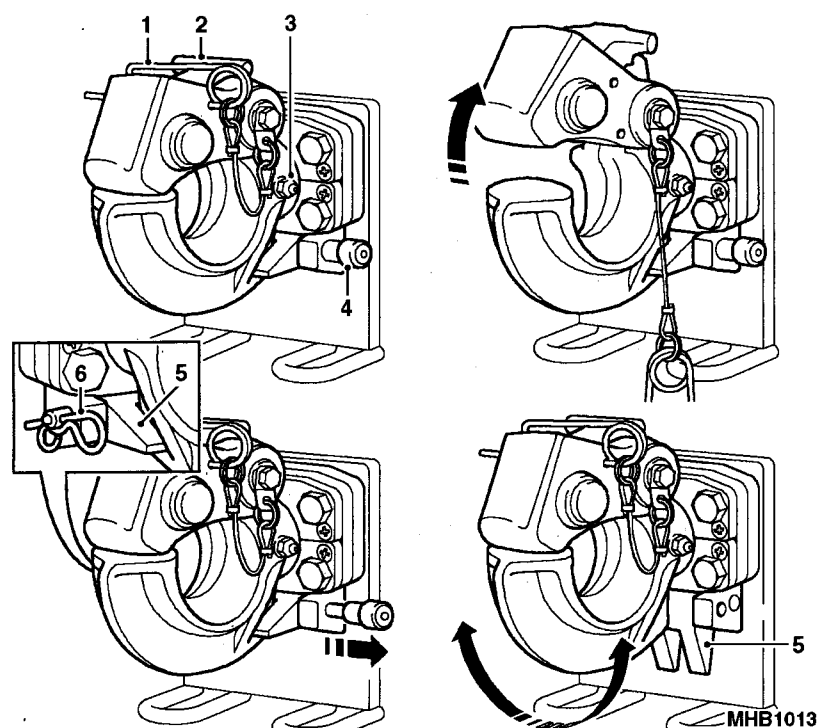

Fig 14 Rotating towing hook operation
- 40.1 Remove the locking pin (Fig 14 (1)) securing the jaw.